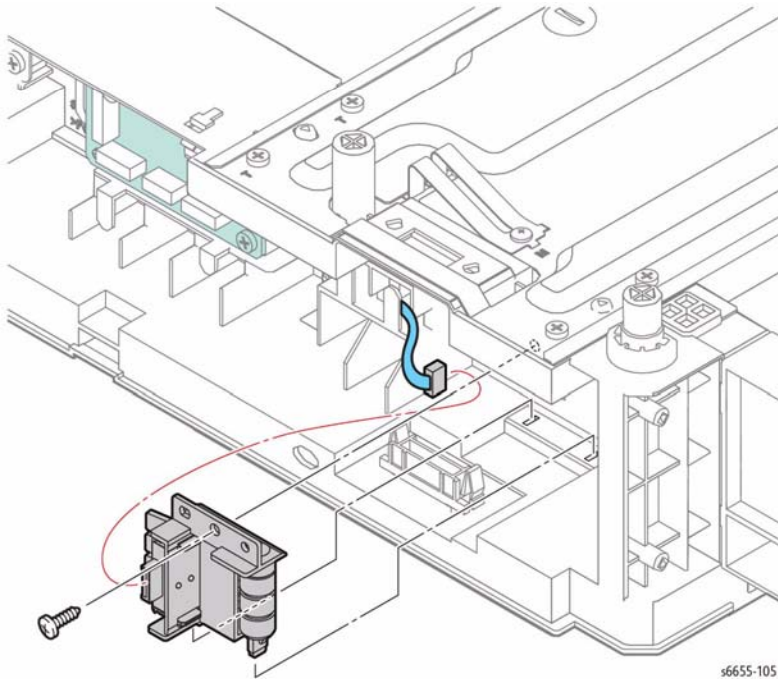

Figure 1 Remove the 550 Size Switch Assembly
3. Refer to Figure 1 to locate and remove the screw (silver, tapping, 8 mm) that attaches the 550 Size Switch Assembly to the feeder and remove the switch assembly.